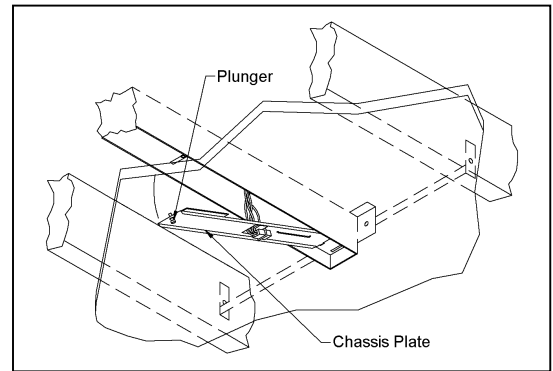

FIGURE 2
8. Install the electronic housing chassis plates into the box by hinging the plates into the pivot holes and moving the plate to the closed position. Push the plungers into the hold down grommet. See Figure 2.